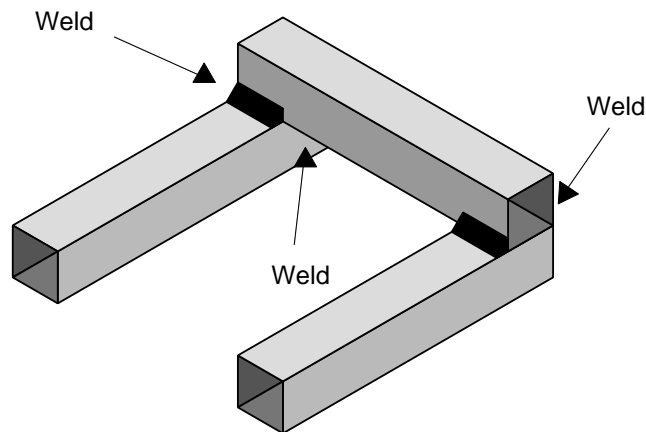

Figure 5: welding of frame cross piece.
- 2) Make up the U-shaped frame as shown in Figure 5. If you have a G clamp you can use it to hold two pieces of the frame together during welding.